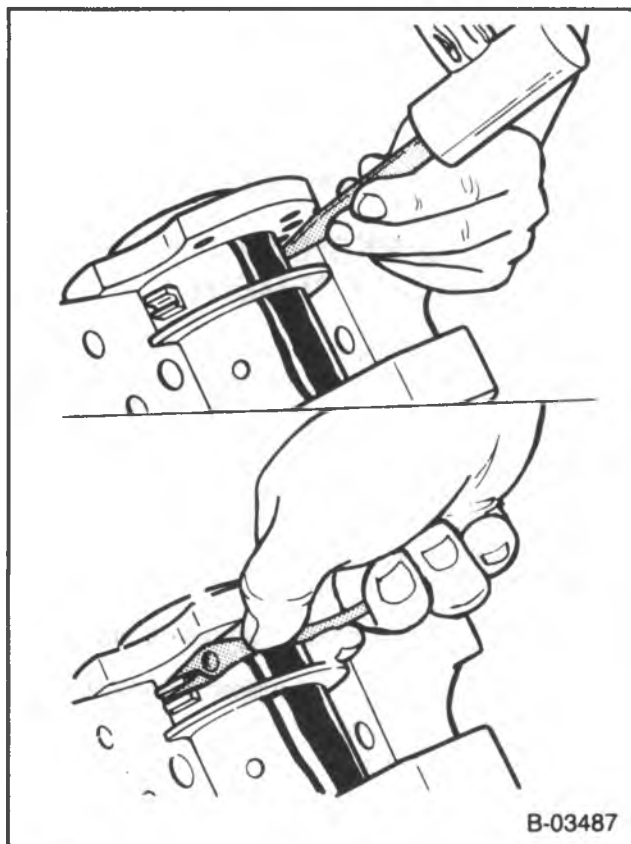

Figure 19 — Removing the Upper Oil Seal Half
4. Upper seal half (figure 19).